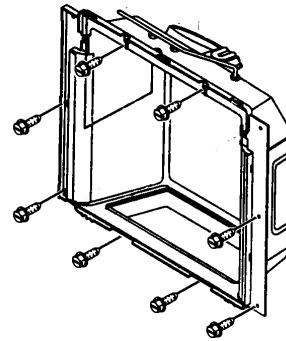

Fig. 29
2. Remove the eight (8) hex-head screws securing the dispenser housing to the freezer door. (Fig. 29)